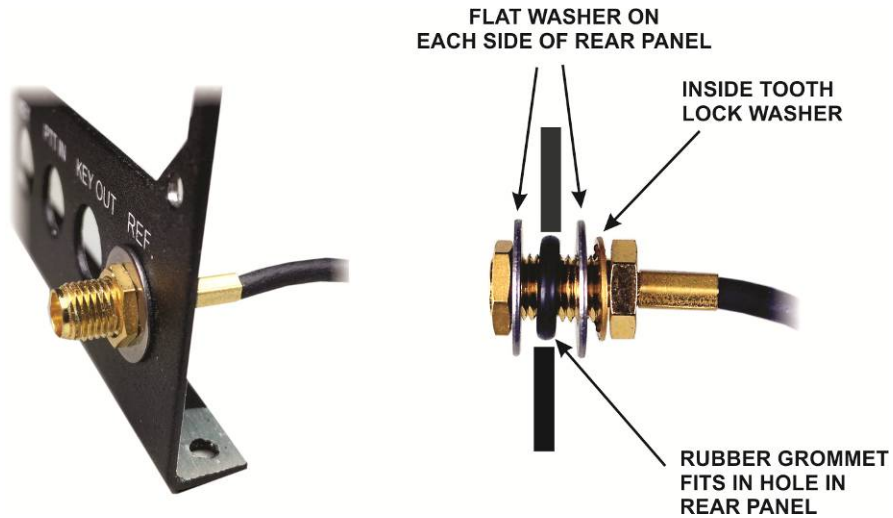

Figure 47. Mounting the K3EXREF SMA Connector.
- Open your K3EXREF Option kit and retrieve the SMA-TMP cable and its associated hardware (see Figure 47).
- Mount the SMA connector in the REF opening on the rear panel as shown in Figure 47.
- If you installed the REF connector for the K3EXREF option (see Figure 47 on page 38), route the coaxial cable across the RF board and up between the front panel shield and the circuit boards as shown in your K3EXREF Installation manual.